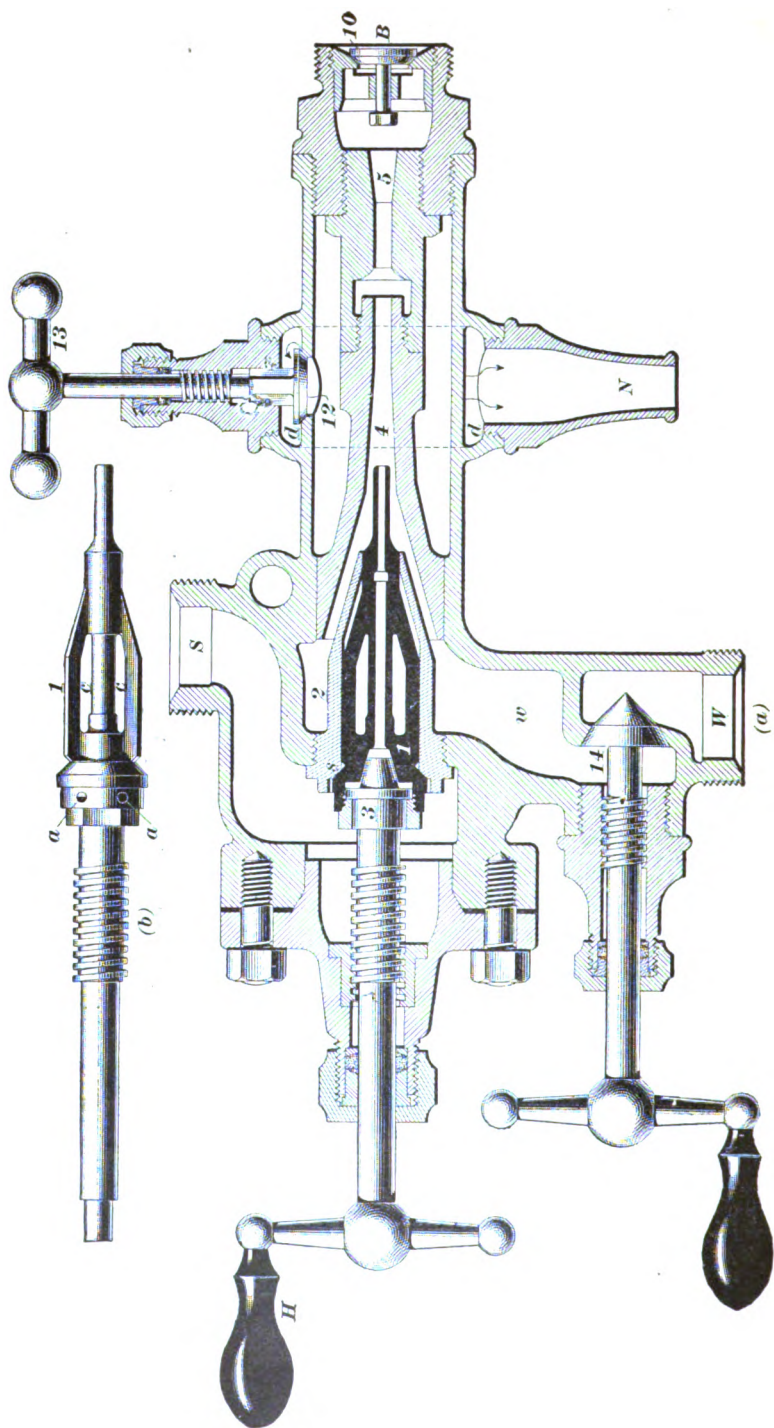

FIG. 13.
**33. Description.**—The arrangement of the tubes, nozzles, and valves of a **Mack injector** is shown in section in Fig. 13, view (*a*), view (*b*) illustrating the lifter steam nozzle *1* separately.